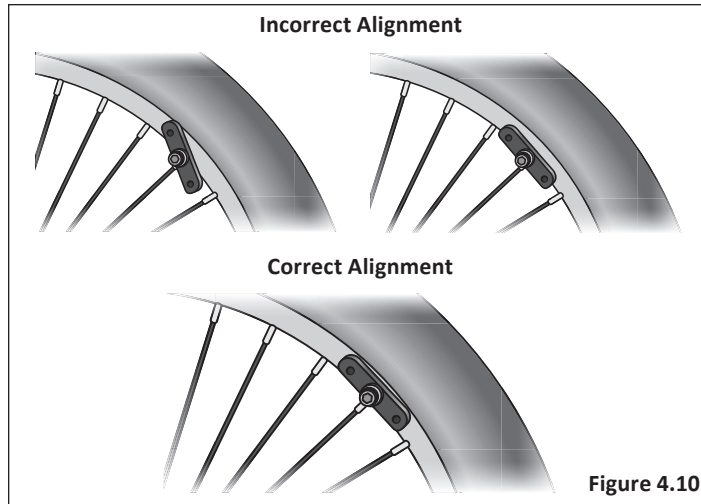

Figure 4.10
- 1 Check that all brake pads are aligned correctly. If not, use a 5 mm Allen wrench and loosen the bolt enough so you can reposition the pad. Position the pad so it is evenly centered on the rim. Retighten the bolt after positioning the pad correctly. **Figure 4.10**